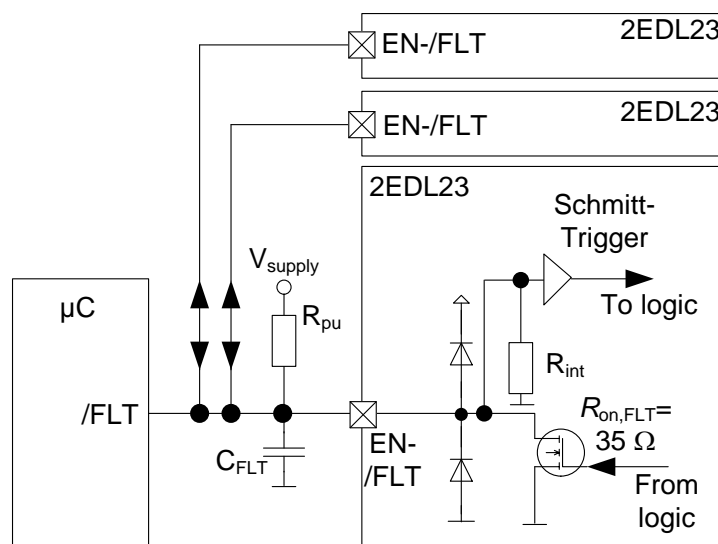
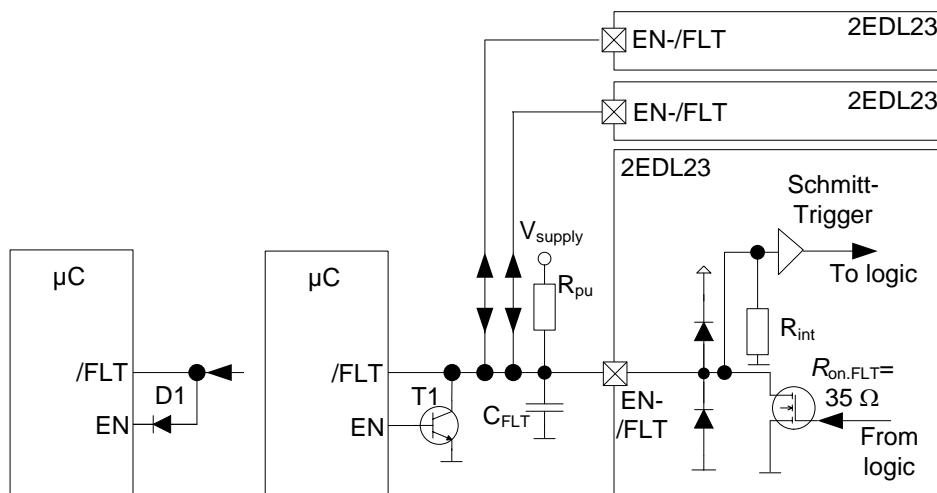

Figure 3 Circuit schematic for temporary latch of fault signal
Figure 4 Circuit diagram for release and shut down by microcontroller with a diode or a transistor
Figure 3 indicates the connection between the microcontroller and the driver ICs for a three phase drive system. All three EN-/FLT pins are connected directly to each other. This configuration does not consider an enable or shut down option by active manipulation at pin EN-/FLT. A common pull-up resistor R_{pu} enables the drive. The capacitor C_{FLT} has two functions. First, it acts as a filter capacitor for the polling input of the microcontroller and second, it works as a delay component for restart after an overcurrent protection event
It can be derived from equations (1) to (5) that there is no technically reasonable solution by extending the circuit of Figure 3 by simply adding an additional EN-pin of the microcontroller. A solution can be introduced by an additional small signal transistor or a diode, which actively pulls down the voltage level at the EN-/FLT pin in a short time. Thus, the microcontroller's EN-pin can act as an emergency shut down for the application according to Figure 4. Transistor T1 or diode D1 disable all driver ICs by pulling down all connected EN-/FLT pins and overriding the external pull-up resistor.
A restart signal by enabling from microcontroller side will follow the charging curve of capacitor C_{FLT} through pull-up resistor R_{pu} , when using the circuit of Figure 4. The charging curve is described by equation (6). With $R_C = R_{pu}$ the period of time $T_{EN,\mu C}$ until the system is finally released by the microcontroller is
During normal mode, the driver IC has a high resistive input as $R_{int} = 73 \text{ k}\Omega$, so that this case can usually be covered by the μC capabilities. Please note here, as shown in section 3.1, that the integrated pull-down resistor R_{int} is n-times in parallel, when operating an n-phase system. This means $R_{int,N}^* = R_{int} / n$. In this case, please carefully calculate the proper value for R_{dec} to ensure the $V_{EN,high}$ level can still reach the maximum EN positive going threshold $V_{EN,TH+}$ of the driver IC which is 2.4 V for the 2EDL23. In case the driving capability of the microcontroller output pin is not enough to drive the EN-/FLT pin, an external pull-up resistor to V_{supply} as depicted in Figure 3 is recommended.